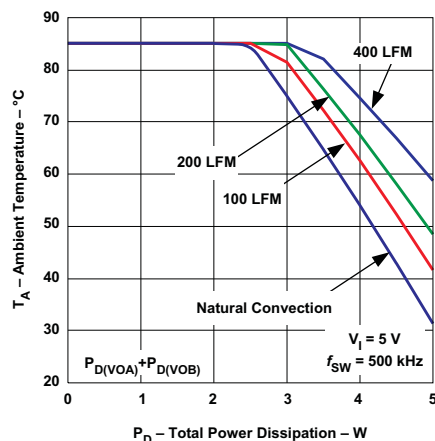
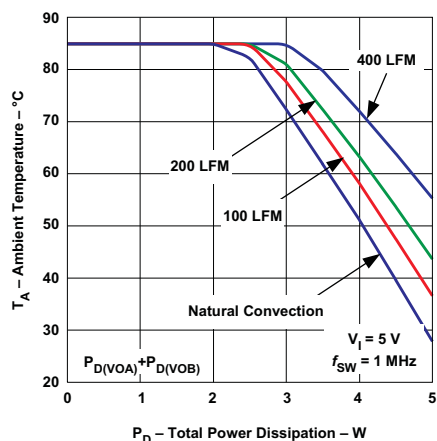

Figure 16. Safe Operating Area
Figure 18. Safe Operating Area
- The temperature derating curves (Figure 16 through Figure 18) represent the conditions at which internal components are at or below the manufacturer's maximum operating temperatures. Derating limits apply to modules soldered directly to a 100-mm x 100-mm, double-sided PCB with 2-oz. copper. See the Safe Operating Area application section of this datasheet.